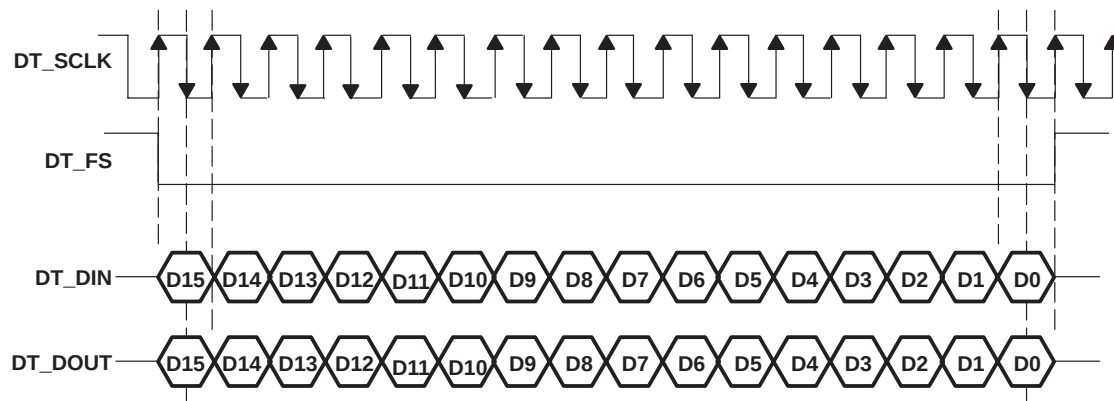

Figure 4-3. FS Low Mode Primary Serial Communication Timing
The second possible serial interface mode is the FS low mode which is selected by tying the SI_SEL terminal to DV_{SS} . This mode differs from the FS high mode in that the frame sync signal (FS) is active low, data transfer starts on the falling edge of FS, and FS remains low throughout the data transfer. Figure 4-3 shows the timing relationship for SCLK, FS, DOUT, and DIN in a primary communication when in FS low mode. The timing sequence for this operation is as follows: